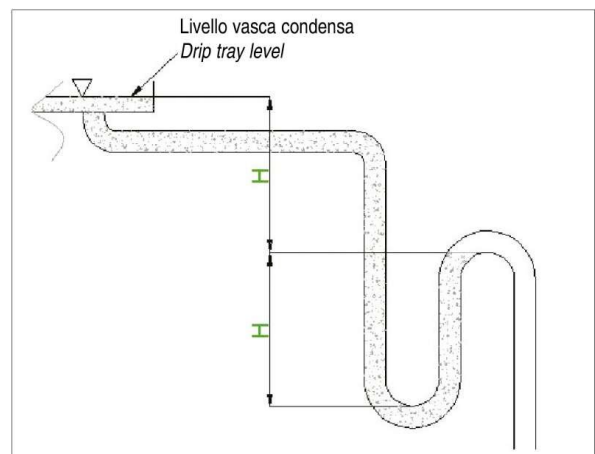

Fig.10
**6.8.2 COLLEGAMENTO SCARICO CONDENSA SEZIONE - SBFR (Fig. 10)**
**6.8.2 CONNECTION OF THE "SBFR" SECTION CONDENSATE DRAIN (Fig. 10)**